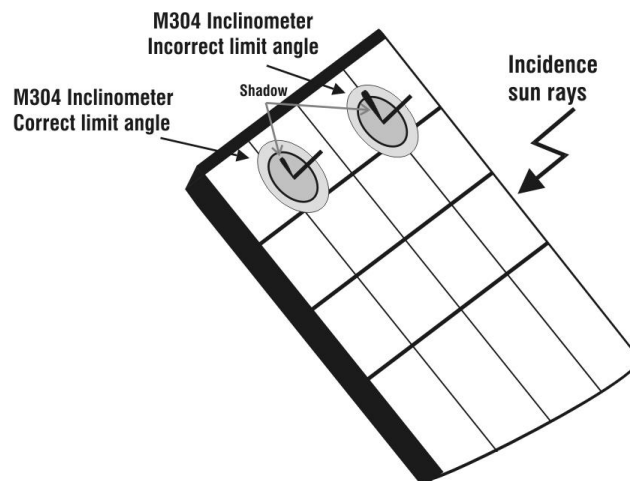

Fig. 10: Positioning the M304 inclinometer
**Verify that the sun shadow falls on the disc within the “limit internal circle” on the disc itself (see Fig. 10). If this is not the case, the incidence angle between sun rays and the module surface is too high and not complying with the test conditions declared by the module manufacturer. As a consequence the measurements performed by the meter are not ok and all measurements steps shall be repeated at another daytime**